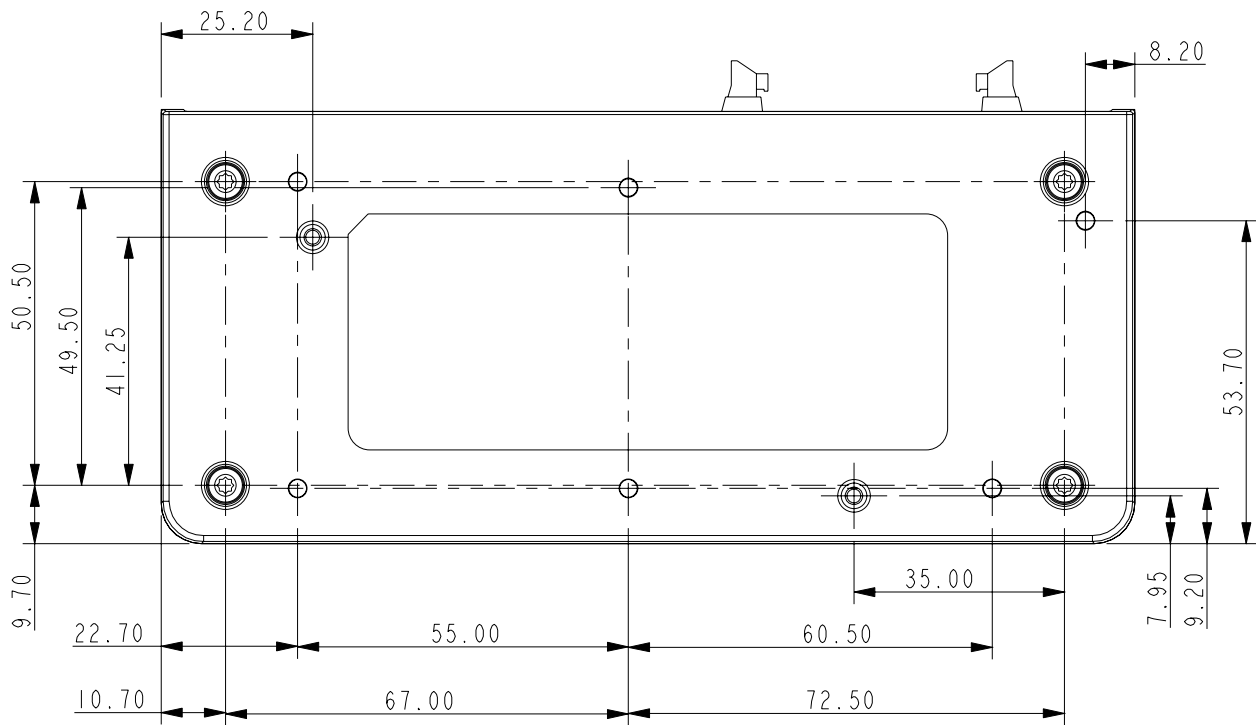

Figure 3: Back (mounting) View
The 9522B LBT incorporates (6) mounting holes on its bottom surface that can aid in its mounting. See Figure 3 for locations of these features. It is recommended that a thread-forming screw be used to mount the 9522B LBT via these features. Particularly, a Textron Camcar® Taptite® II Thread-Rolling Fastener of M3.5x0.6 thread type is recommended. This fastener has a 15IP Torx Plus® pan head and is available in lengths of 6, 8, 12, 16, and 20 mm as part number 3BE-P802-00, 3BE-P803-00, 3BE-P8185-00, 3BE-P804-00, 3BEP8186-00, and 3BE-P8187-00 respectively. Length should be chosen to ensure that penetration into the 9522B LBT housing does not exceed 11 mm. If a 6-32 thread type is desired, a